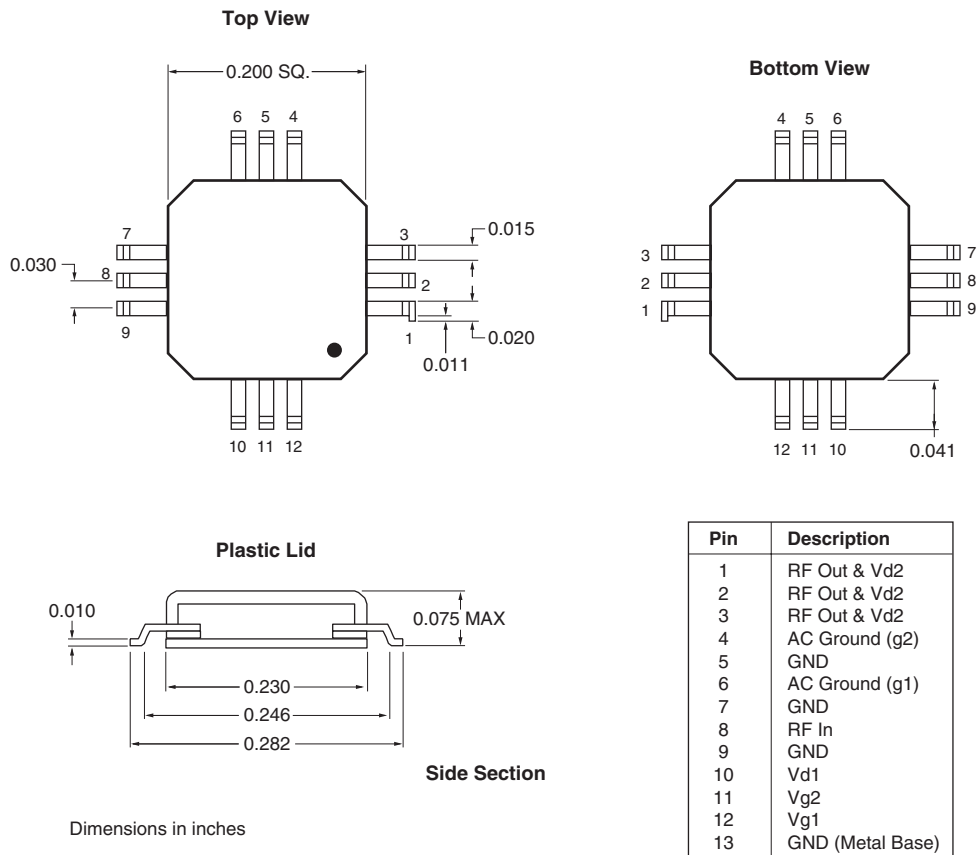
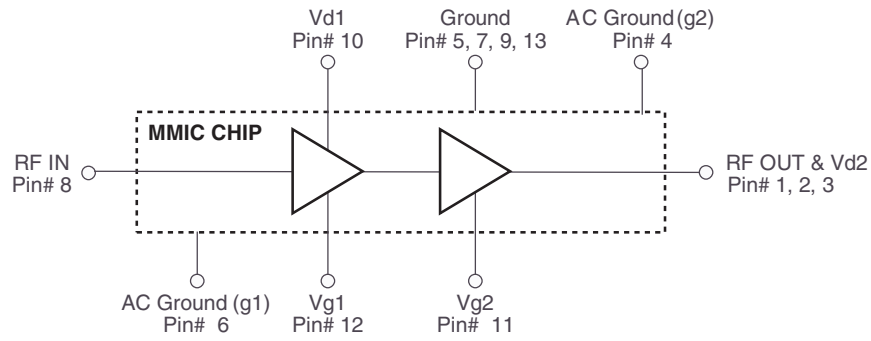
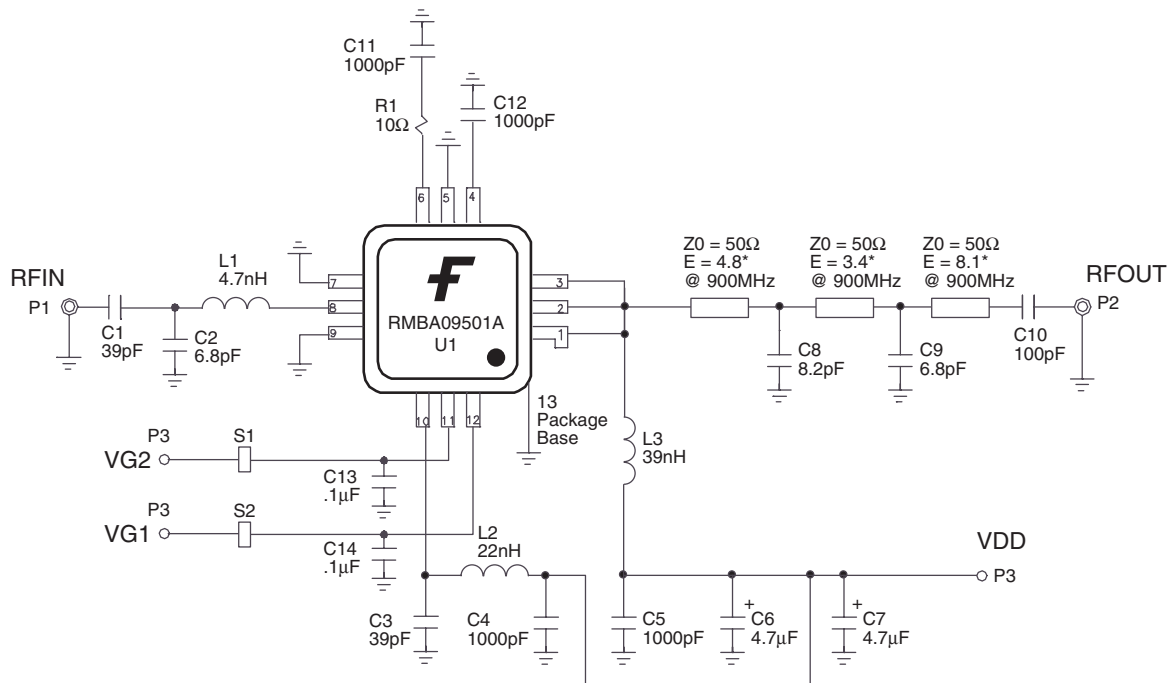
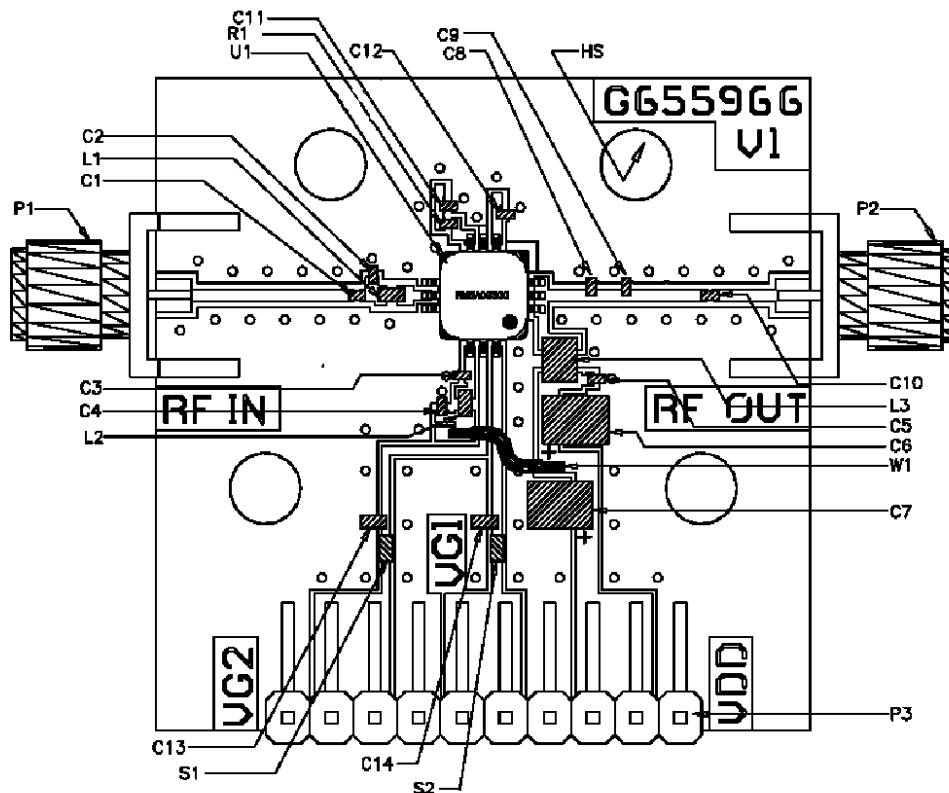

Figure 1. Package Outline and Pin Designations
Figure 2. Functional Block Diagram of Packaged Product
Figure 3. Schematic of Application Circuit Showing External Components
Figure 4. Layout of Test Evaluation Board (RMBA09501A-TB, G657471)
The device requires external input and output matching to 50Ω as shown in Figure 3 and the Parts List.
The following describes a procedure for evaluating the RMBA09501A, a monolithic high efficiency power amplifier, in a surface mount package, designed for use as a driver stage for Cellular Base stations, or as the final output stage for Micro- and Pico-Cell base stations. Figure 1 shows the package outline and the pin designations. Figure 2 shows the functional block diagram of the packaged product. The RMBA09501A requires external passive components for DC bias and RF input and output matching circuits as shown in Figure 3 and the Part List. A recommended schematic circuit is shown in Figure 3. The gate biases for the two stages of the amplifier may be set by simple resistive voltage dividers. Figure 4 shows a typical layout of an evaluation board, corresponding to the schematic circuits of Figure 3. The following designations should be noted:
- (1) Pin designations are as shown in Figure 1.
- (2) Vg1 and Vg2 are the Gate Voltages (negative) applied at the pins of the package.
- (3) Vgg1 and Vgg2 are the negative supply voltages at the evaluation board terminals.
- (4) Vd1 and Vd2 are the Drain Voltages (positive) applied at the pins of the package.
- (5) Vdd1 and Vdd2 are the positive supply voltages at the evaluation board terminals.